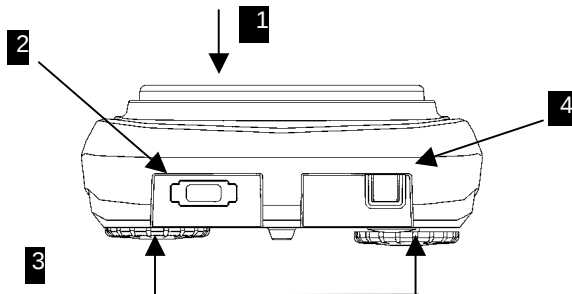

Fig.1
**Fig.1 and 2 : Rear and bottom part of balance**